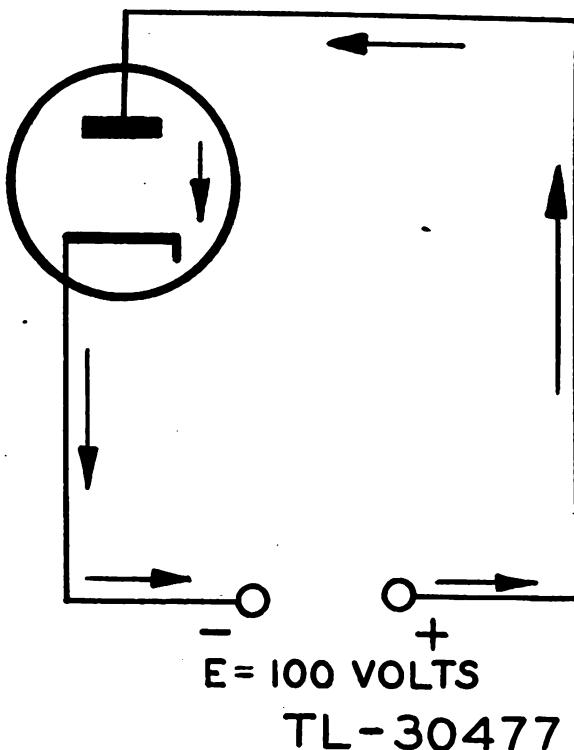
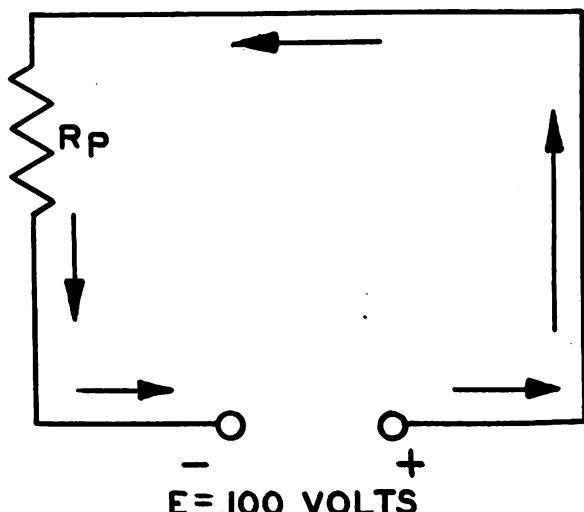
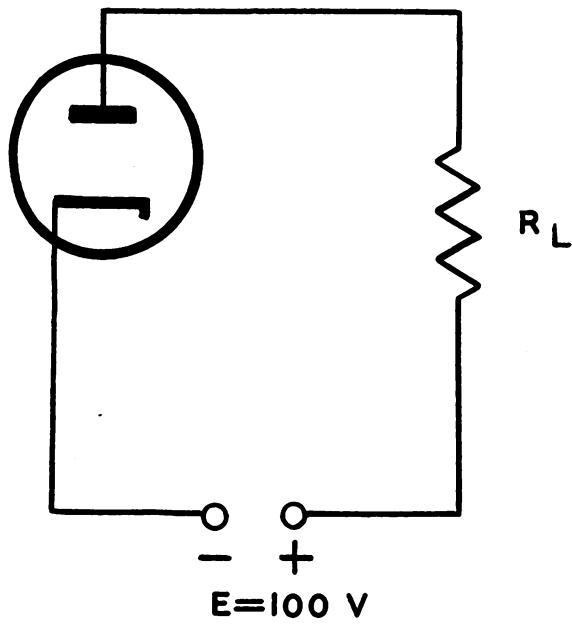
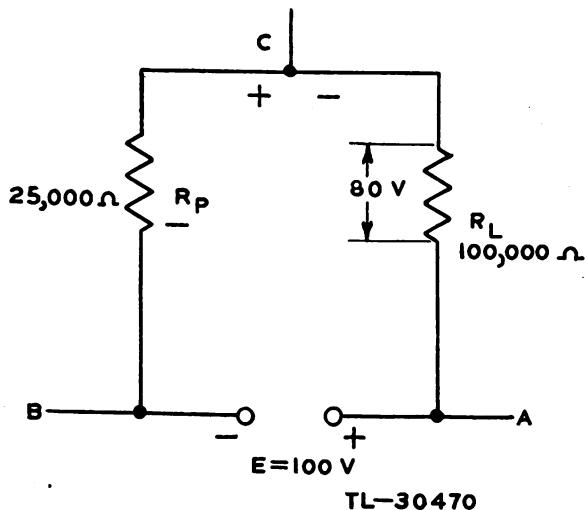

Figure 42. Voltage measurements functional schematic.
Figure 43. Voltage measurements functional schematic.
Figure 44. Voltage measurements functional schematic.
Figure 45. Voltage measurements functional schematic.
c. *Plate Circuit.* (1) Current flow through the cathode-plate circuit of a diode vacuum tube is shown in figure 42. Although the cathode and plate elements inside the tube are not mechanically joined, current does flow between these elements when the plate has a higher potential than the cathode. In addition, this current flow causes a voltage drop inside the tube as a resistance (d-c plate resistance of the tube) exists between these elements. This circuit can be represented as shown in figure 43, with the resistance  $R_p$  symbolizing the resistance between the plate and cathode of the tube.
(2) Another illustration of a plate-cathode circuit series connection is shown in figure 44, and is the same as figure 42 with the addition of resistor  $R_L$ . Representing the plate-cathode resistance of the tube as  $R_p$  and giving values of 25,000 ohms and 100,000 ohms to the resistances, as shown in figure 45, the voltage drops in this circuit can be determined. The